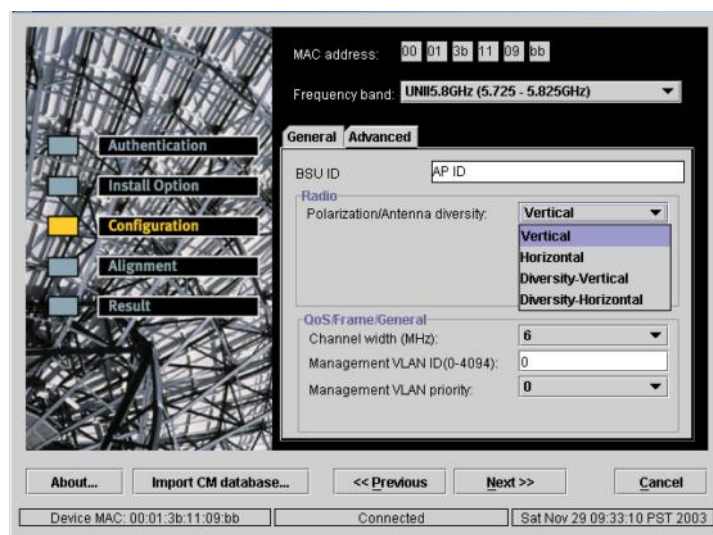

Figure 5-7 Configuration Window: Advanced
13. In the Configuration Window, click on the **Advanced** tab to view additional configuration options as shown in Figure 5-7. Configure the following parameters as appropriate: